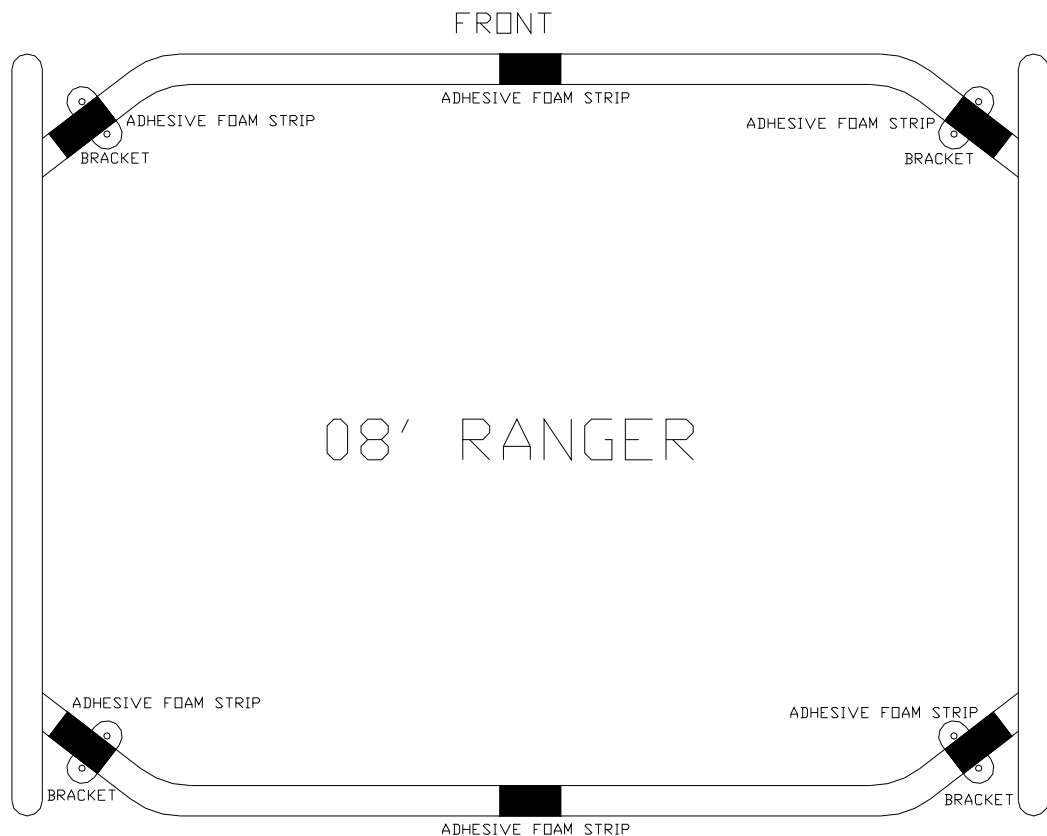
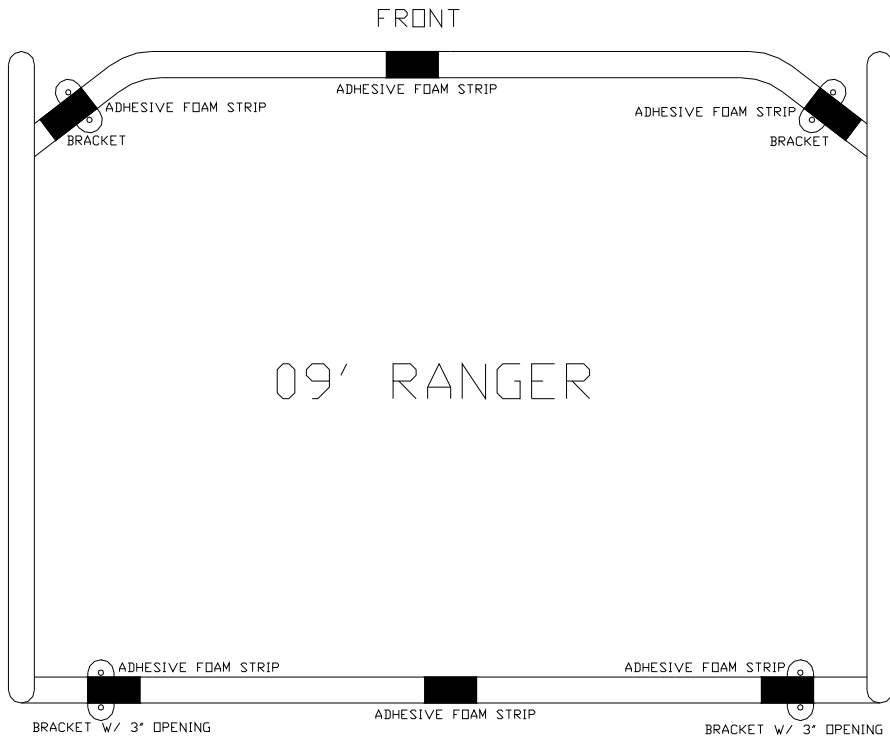

Figure 1A
Figure 1B
2. Using Figures 1A and 1B Below (or 1C for Ranger Crew) – place UTV Roof Mounting Brackets on Roof and using a marker, mark the position of the holes needed for each Roof Mounting bracket. **Figure 1A is for Polaris Ranger 2003-2008. Figure 1B is for Polaris Ranger 2009-C. 1C is for Ranger Crew.**
4. Cut (6 or 9) 3" strips of adhesive foam and apply to roof in between holes to prevent roof rattling once mounted. Foam should run in the direction of the roll cage as shown in Figures 1A and 1B above.
6. Prior to attaching the roof mount brackets, cut the remaining adhesive foam in half and apply one section to the roof in the center of the roof where roof and each roll cage bar meet as shown in Figures 1A, 1B, and 1C above. If additional tape is required to prevent rattling it can be purchased from any hardware store as window sealant foam tape.